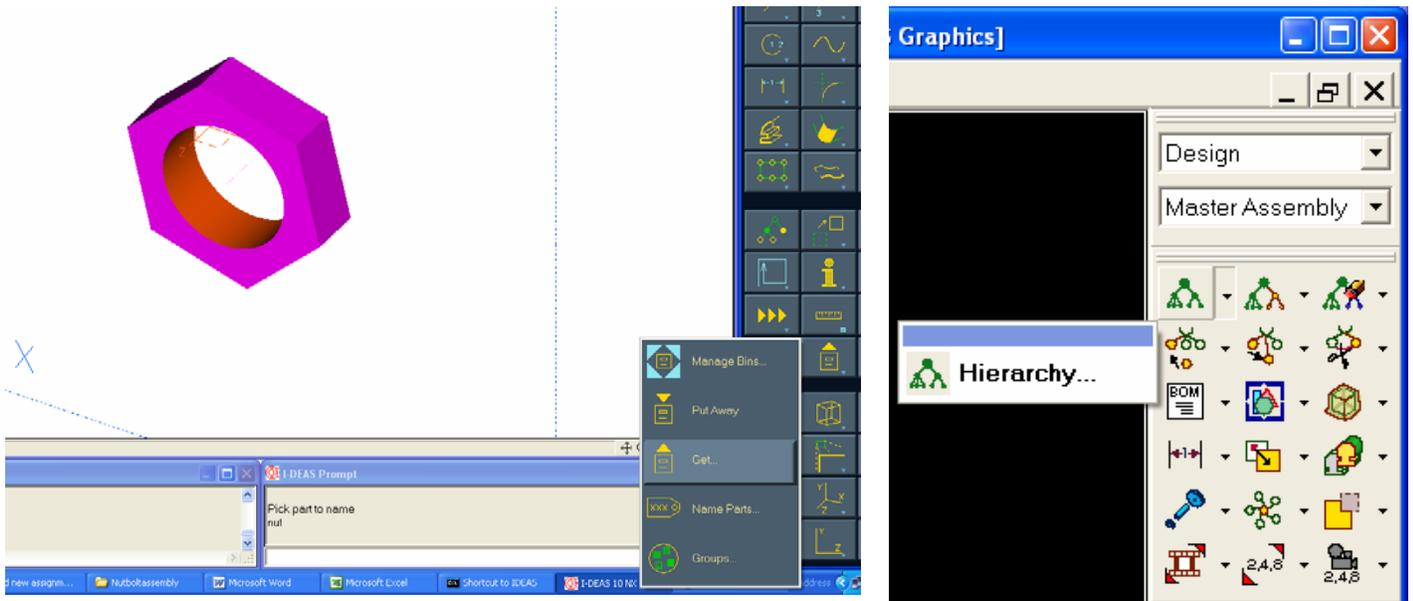

Figure 9: Hierarchy and instances
8. Change the task to Master Assembly to create a Hierarchy called *boltassembly* and add *instances* of parts from the bin as shown in figure 9 -10